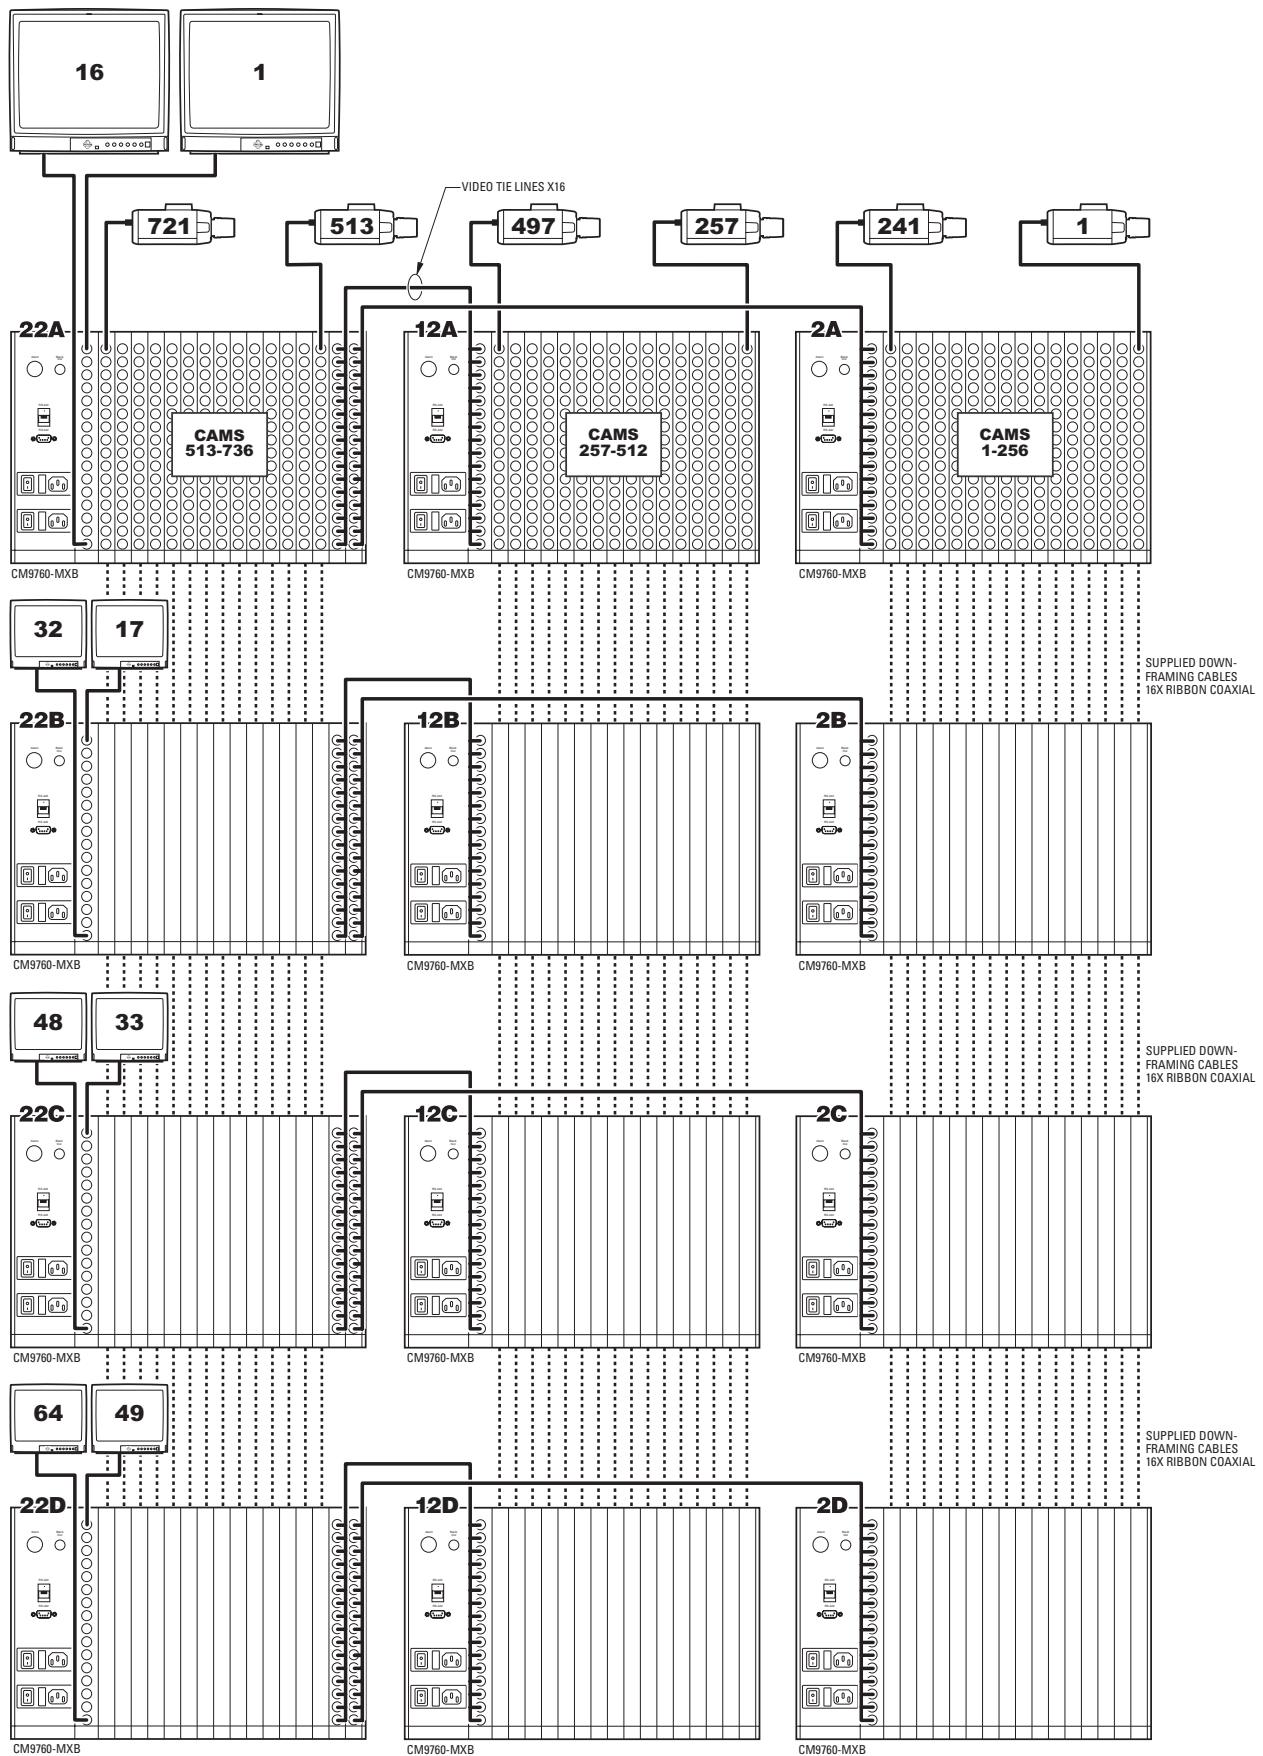

Figure 77. Sideframing and Downframing: 736 x 64 Configuration
- 736 x 64 (refer to Figure 77)